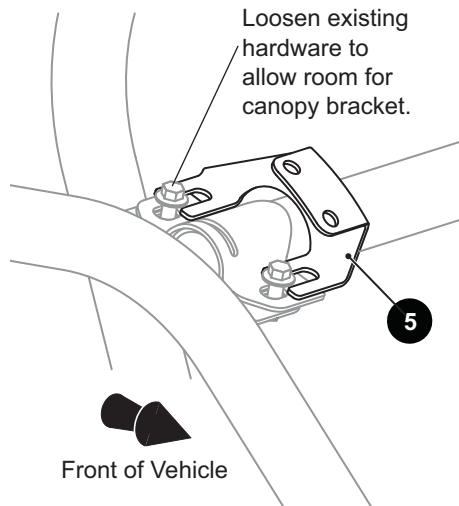

Fig. 1 Canopy Mounting Brackets
1. Loosen the ROPS (Roll Over Protection System) hardware at each of the four upper corner brackets (Ref. Fig. 1). Do not remove the bolts completely.
2. Slide the passenger side front canopy mounting bracket (5) underneath the bolt heads at the front passenger side of the ROPS.